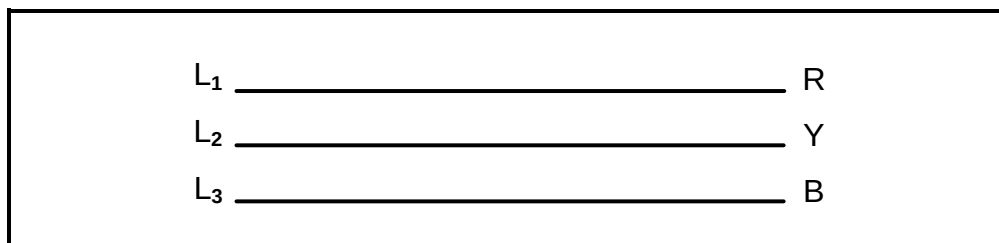

FIGURE 4.6.5: THREE-PHASE SUPPLY
4.6.5 Draw a diagram of a power-factor correcting-capacitor bank connected to the three-phase supply in FIGURE 4.6.5.